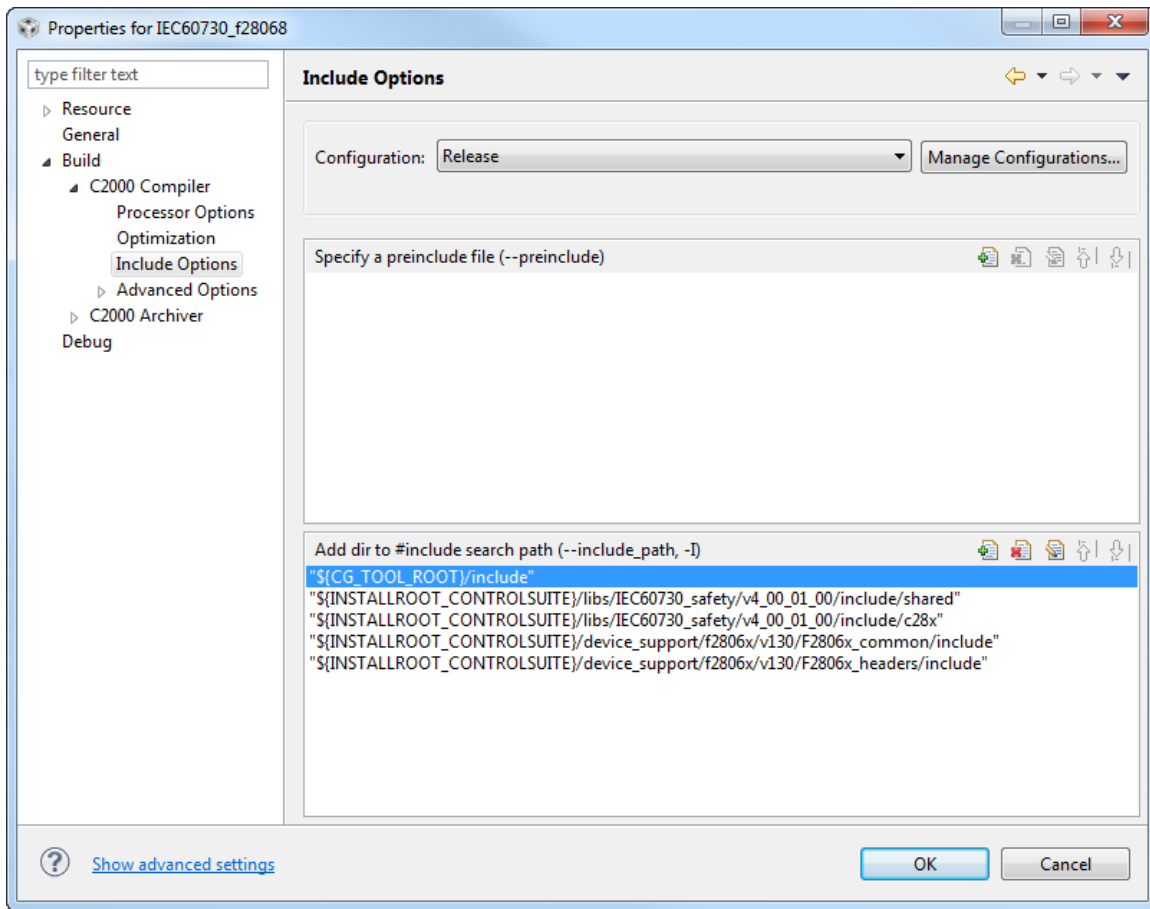

Figure G.2: Adding Header File Directory
7. Add the search path to the version header files required by the source files. Click on **Projects** menu > click on **Properties** > expand to **Build** > **C2000 Compiler** > **Include Options**. Add the following in the **Add dir to #include search path** window. See figure G.2. For example for this library build v130 of the header files and v4_00_01_00 of the safety library was used.